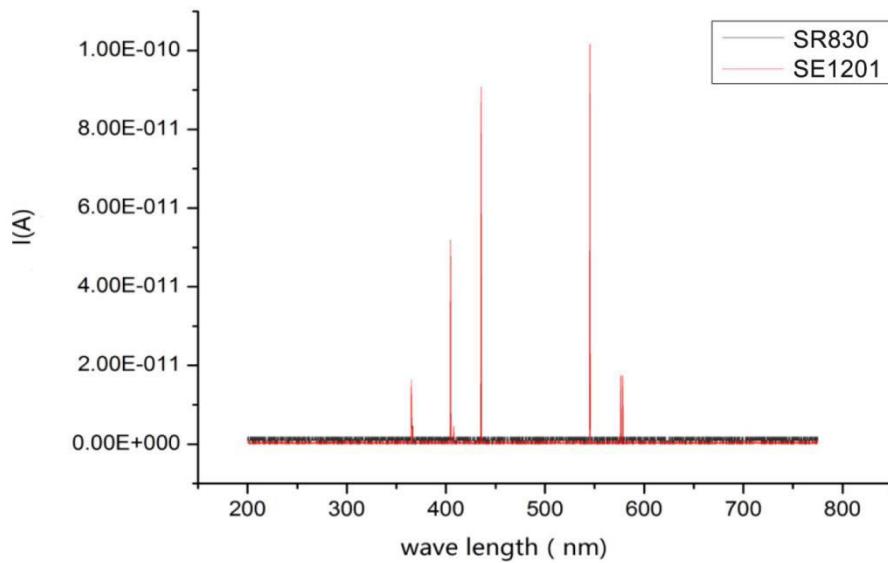

Fig.71 The Contrast Spectrum Curve between SR830 and SE1201
5. Use the SR830 instead of the SE1201 to measure. Repeat the steps above to run the same experiment. Then you will get another spectral curve as is shown in Fig.71. You can see that these two curves measured by SE1201 and SR830 are almost the same.